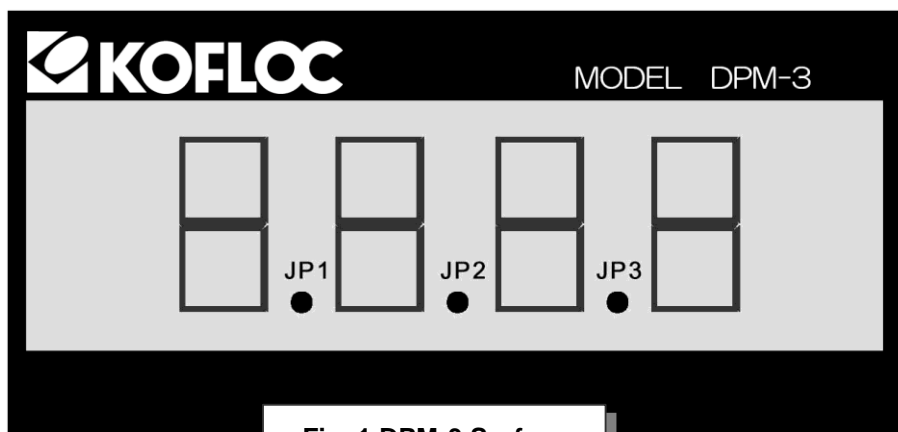

Fig. 1 DPM-3 Surface
- ① Jumper of indicated value to be set of jumper pins (A, B, C, D) (for the indicated value, see the left table).
- ② After setting (A, B, C, D), the decimal point is set with (JP1, JP2, JP3) (see Fig. 1) to complete the full-scale change.